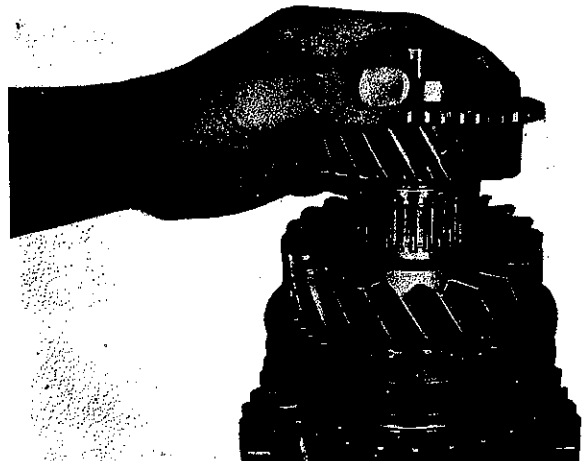

Fig. 36
17. Slide needle cage (410) and 4th gear wheel (409) with clutch teeth up onto main shaft (Fig. 36).